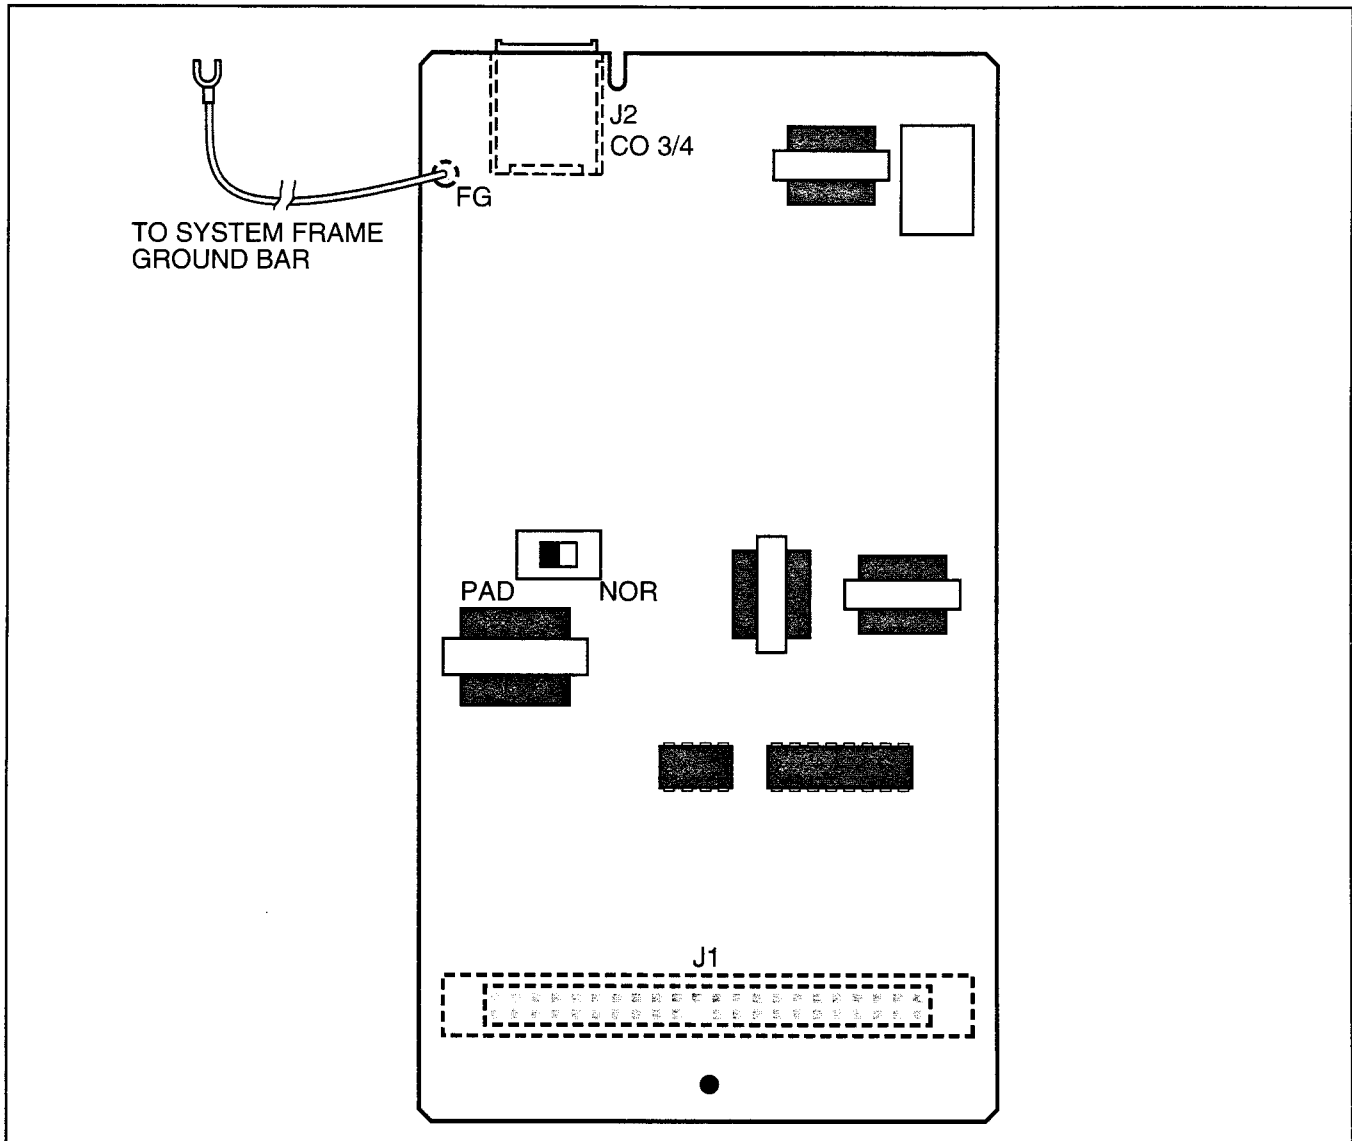

FIGURE 4-8
7.02 The QCDU is shown in Figure 4-8.